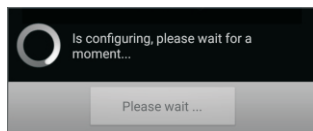

Fig.5-4
**Attention:** Refer to fig 5-4, the process of wifi configuration for the app will not notice user 'wifi configuration success' User have to exit the configuration interface from the app personally.